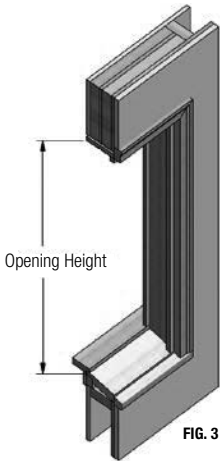

FIG. 3
- B) Measure the opening height of the existing frame at the left, right and center of the frame. (Fig. 3 & 4) Verify the replacement window frame height is approximately 3/8" smaller than the existing frame height. **Note: Measure from inside of head jamb to top of sill.** (Fig. 3 & 4)